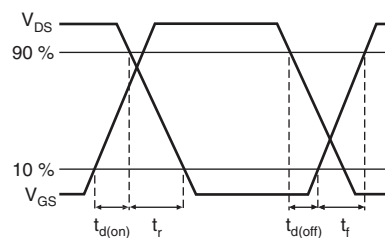

Fig. 11 - Switching Time Waveforms
- Repetitive rating; pulse width limited by maximum junction temperature (see fig. 11)
- a. Repetitive rating; pulse width limited by maximum junction temperature (see fig. 11)